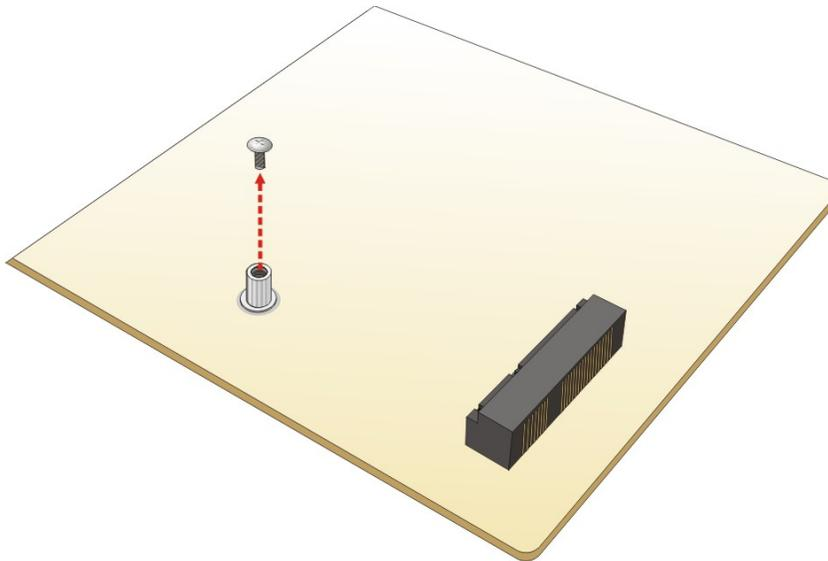

Figure 4-1: Removing the Retention Screw
Step 2: Remove the retention screw. Remove the retention screw as shown in Figure 4-1.